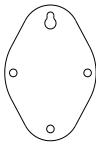

Figure 2-4 Mounting Template
7. Drill the screw holes on the wall according to the drill template. As shown in Figure 2-4.